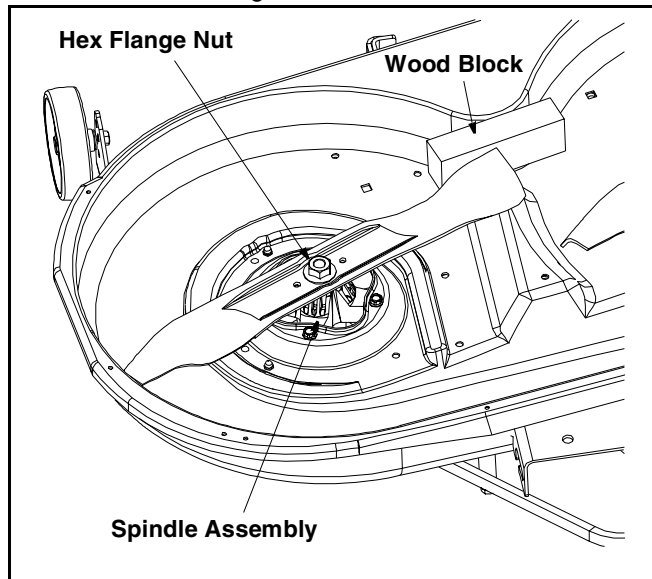

Figure 9
- Place a block of wood between the center deck housing baffle and the cutting blade to act as a stabilizer. See Figure 9 .
- Use a 15/16" wrench to remove the hex flange nut that secures blade to the spindle assembly. See Figure 9 .